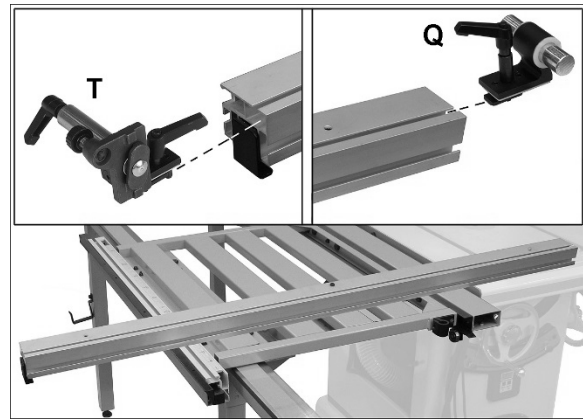

Figure 7-24
2. Rest fence across table, with scale facing up. Then flip it forward so that the two outer holes now face upward. See Figure 7-24.
3. Install angle clamp (T, Figure 7-24) onto fence by inserting T-nut into channel. Slide angle clamp to about 1-foot from left end of fence.
4. Slide pivot post (Q, Figure 7-24) onto fence, and position about 1-1/2 feet from right end of fence.